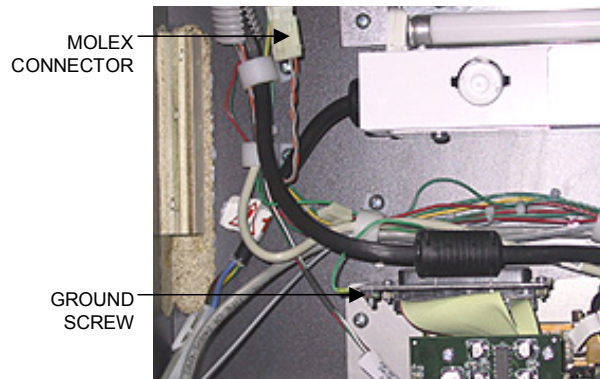

FIGURE 13 - FORCE FUSION - CLOSEUP OF CPU SECTION
12. Connect the touchscreen controller cable in the back of the controller and secure the controller in the game with the existing hardware. Then connect the Molex connector (orange and gray wires) to the main power harness and attach the ground screw. Replace the cables in the clamps as before. See Figure 13.